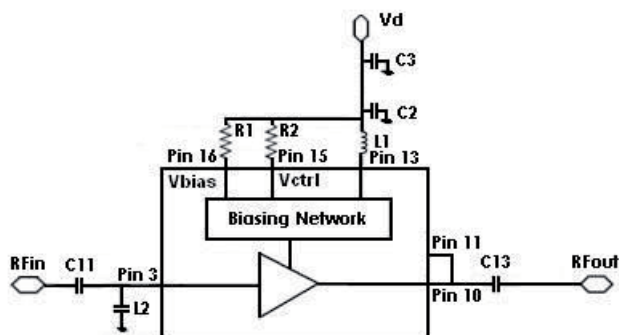

Figure 46. Application Circuit Diagram
1. V_{bias} and V_{ctrl} can be externally controlled by change external biasing resistors $R1 = R_{bias}$ and $R2 = R_{ctrl}$ (as shown in Fig. 46).
- V_{bias} and V_{ctrl} can be externally controlled by change external biasing resistors $R_1 = R_{bias}$ and $R_2 = R_{ctrl}$ (as shown in Fig. 46).
- V_{bias} and V_{ctrl} can be externally controlled by change external biasing resistors $R_1 = R_{\text{bias}}$ and $R_2 = R_{\text{ctrl}}$ (as shown in Fig. 46).